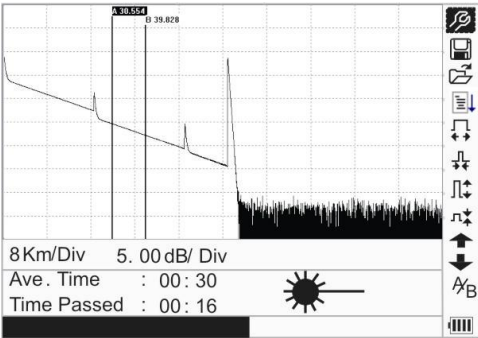

Figure 37.- Measuring.
- Measure: press  to start measurement, and the interface is as shown in figure 37 and 38.